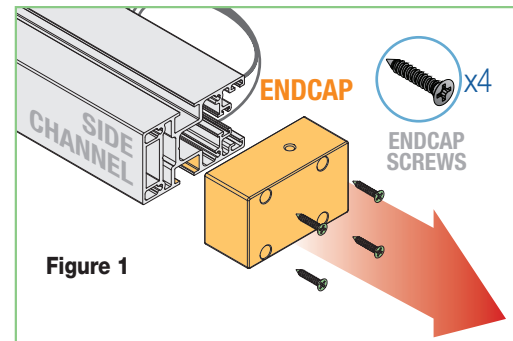

Figure 1
1. Remove the four (4) screws and endcap from each side channel (fig.1).